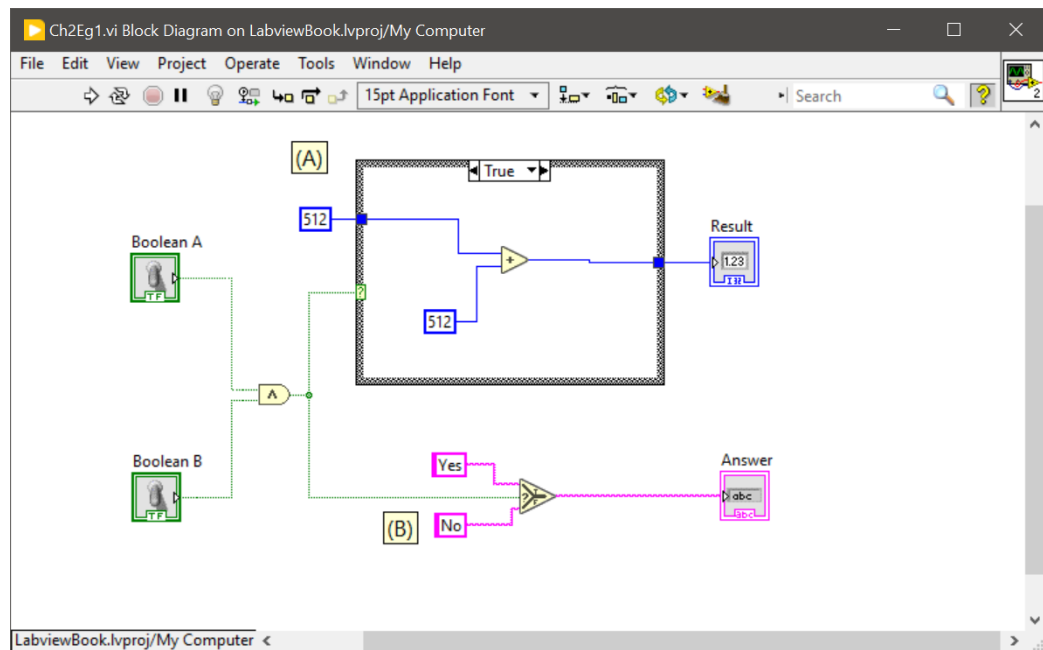
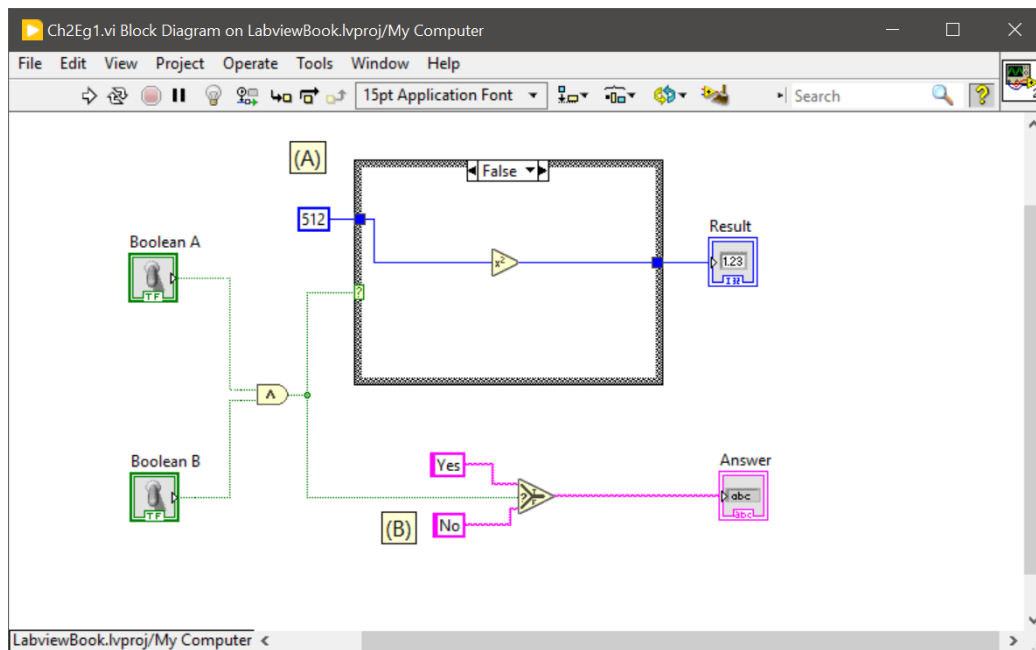

Figure 2.1: A case structure showing its truth block (A), and a ternary operator (B).
Figure 2.2: A case structure showing its false block (A), and a ternary operator (B).
The case structure executes a block of code according to its input condition. In LabVIEW, the input condition may be either a boolean value, an enumeration, or an error value. Figure 2.1 (A) shows how a case structure looks, a thick grey box with a green ? and a selection box stating “True”. What ever is inside this grey box will be executed if a boolean true value is wired into the conditional terminal, the green ?. Figure 2.2 shows what would be executed if the condition is false.
Comparison functions in LabVIEW produce only boolean values, this you have seen in the examples so far. Feeding these boolean values into case structures allow you to select different operations to be preformed. The example provided in figures 2.1 & 2.2 show how you would choose two different operations on an integer. If the condition is true, 512 is added to the input
The plural in the title is misleading, there is only one ternary operator in LabVIEW. Figure 2.1 (B), on page 20, is this little function in action. You supply it with a boolean value and outputs either its truth or false value. In this example, if the boolean value is true, then the ternary operator outputs the string “Yes”.